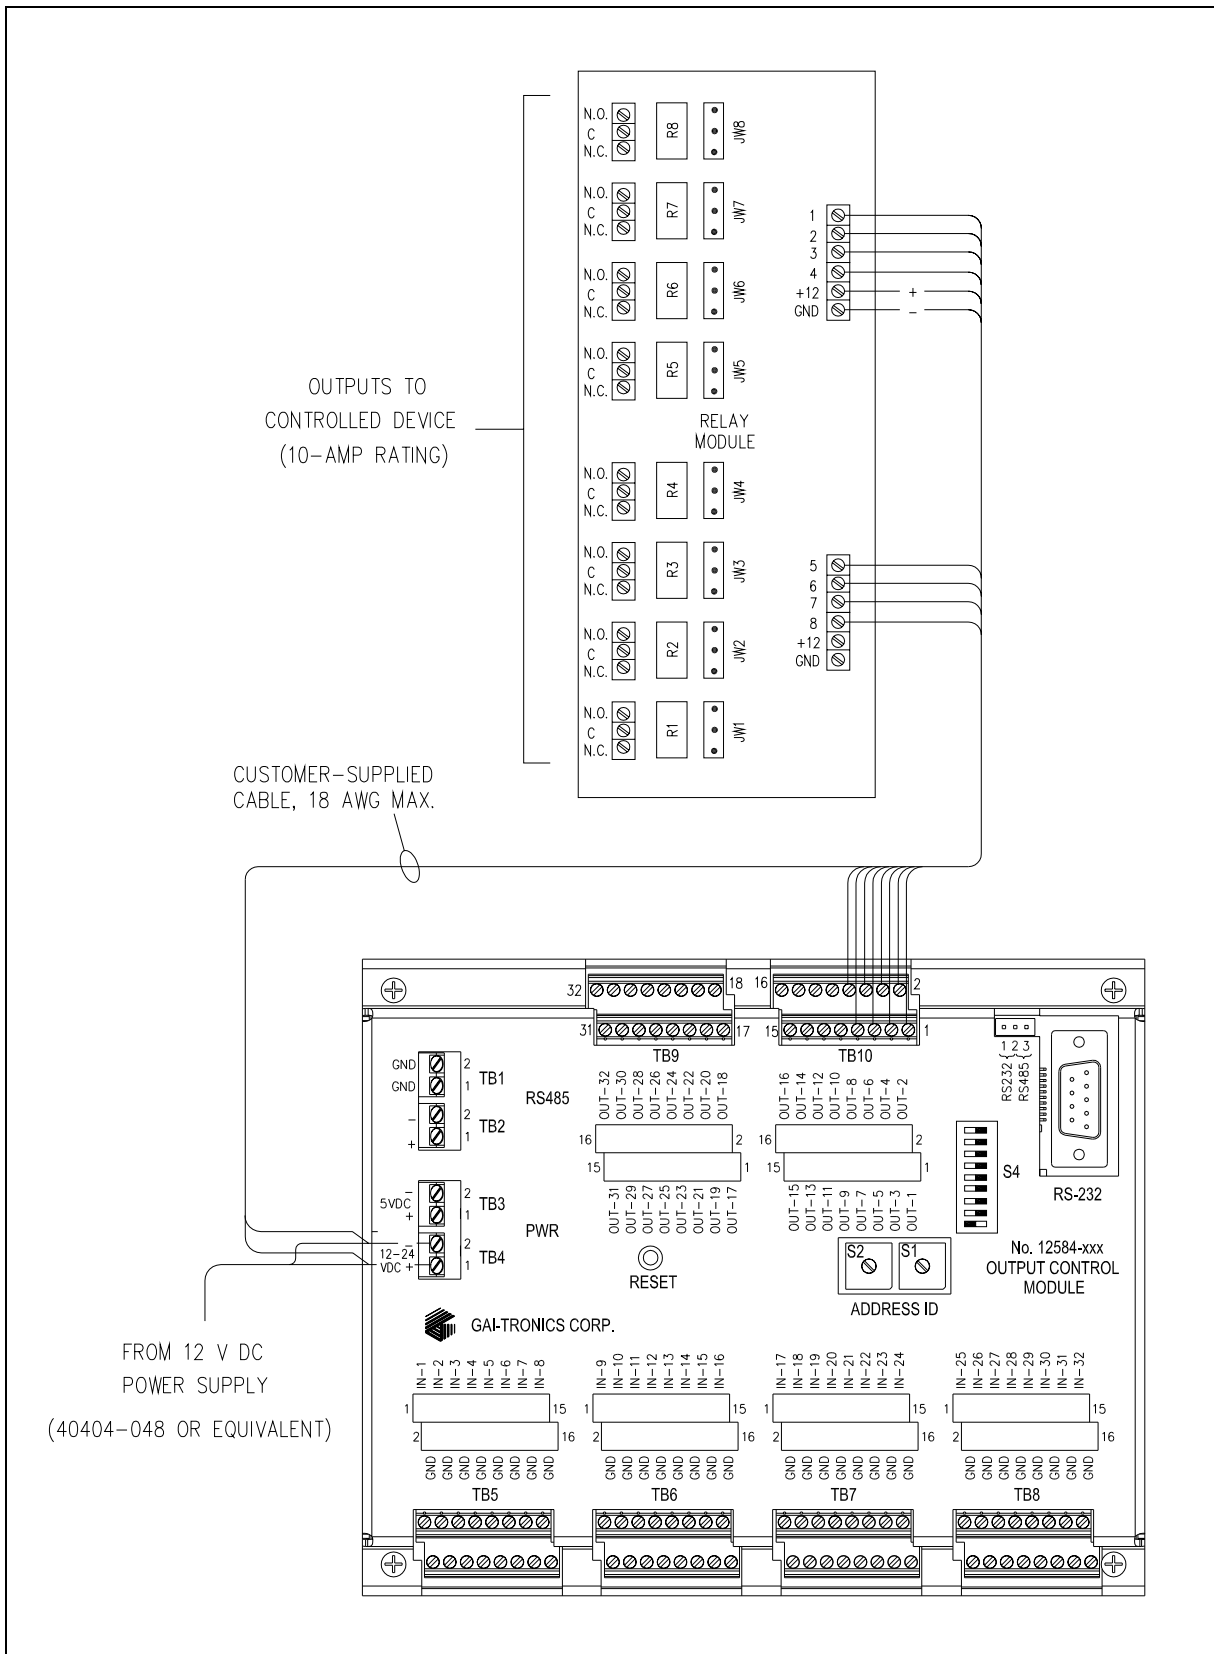

Figure 1.
Convert the Part No. RIO-8 PCBA by changing the jumper arrangement associated with each relay. Jumper wires JW1 through JW8 are associated with their respectively numbered relays. Refer to Figure 1 for jumper locations.
2. Snap or slide the relay board into place. Refer to Figure 1 for the interconnection with the Model XCP0600A (12584-xxx) Output Control Module.